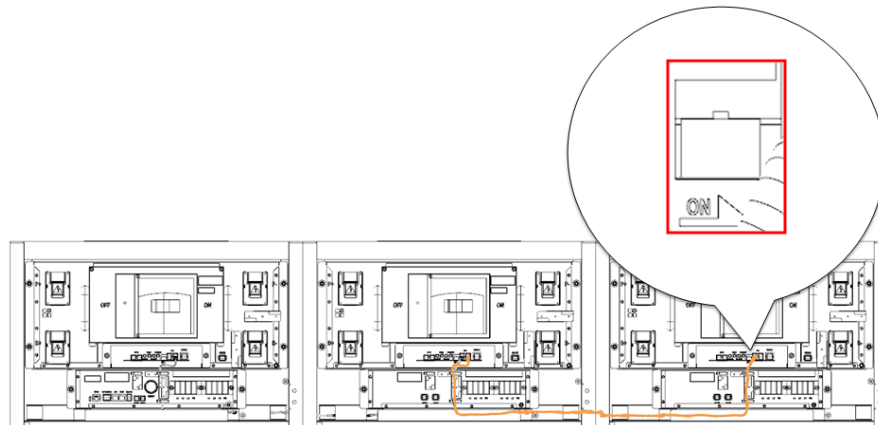

Figure 5-9: Termination resistor setting
2. Check the CAN connections to the Switchgear Assembly. For the rack with the SMPS Assembly Type A, one of the connections must be made to the SMPS Assembly. A termination resistor switch must be turned on in the rack that is farthest from the rack with SMPS Assembly Type A. Refer to Figure 5-9: Termination resistor setting.